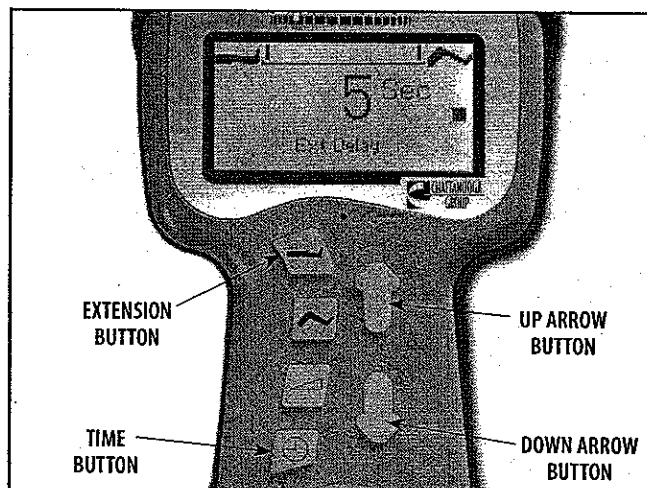

FIGURE 5.4
5. Press and hold the Time and Extension buttons. While holding the Time and Extension buttons, press the Up or Down Arrow button until 5 Sec is displayed on the Pendant. See Figure 5.4.